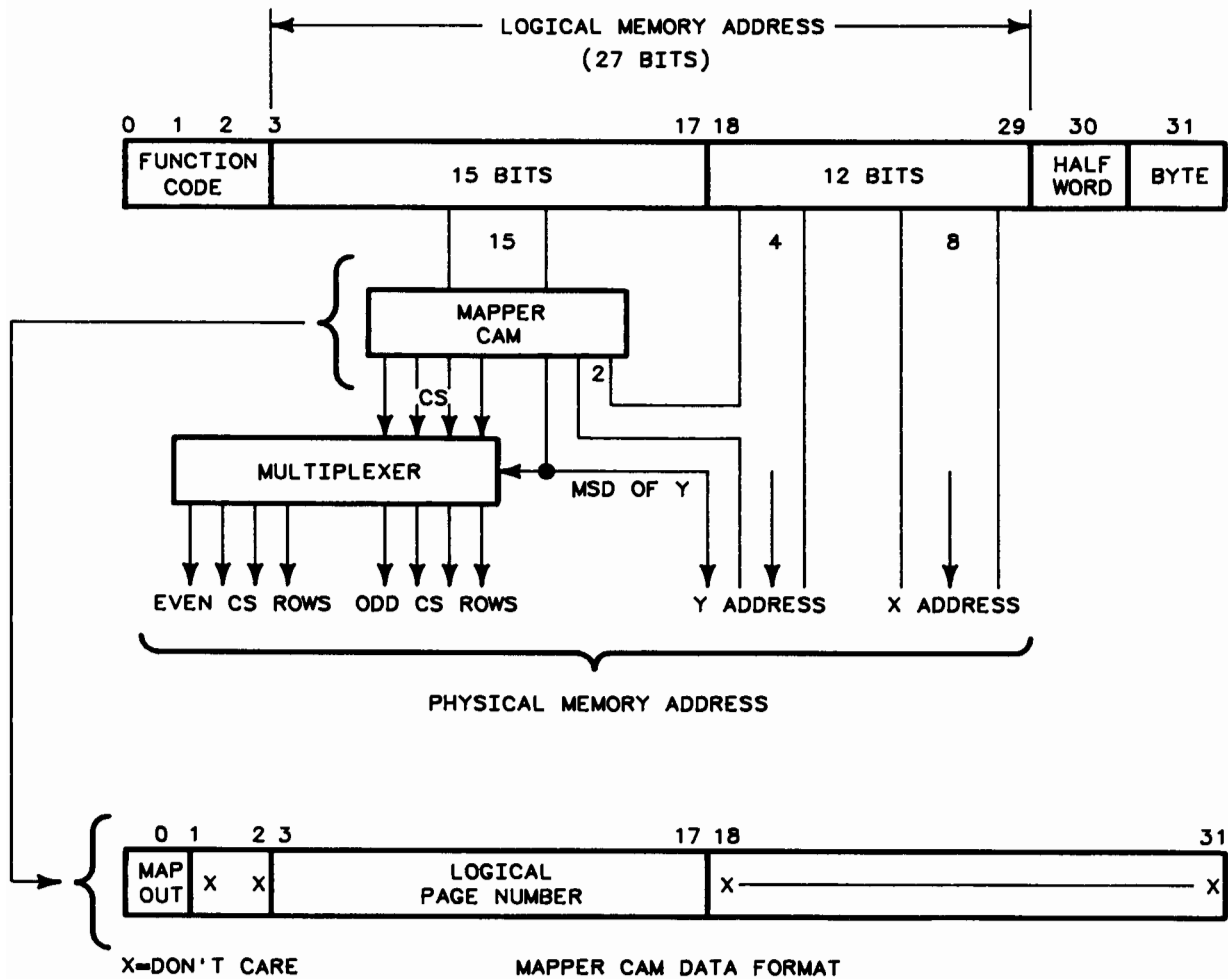

Figure 2-14. 512K Memory Mapping Operation
The 256K RAM used 16 of the 32 mapper CAM registers to produce chip select lines for selecting rows. The 512K RAM uses all 32 mapper CAM registers for selecting 8 rows instead of 4 rows (Figure 2-13). This is accomplished by multiplexing the Chip Select output of the mapper CAM, and using the most significant bit of the Y address to determine whether the multiplexed output is an odd numbered row or an even numbered row (Figure 2-14). The RAM chips still do not use the most significant bit of the Y address. It is only used by the multiplexer inside the Memory Controller.
As in the 256K RAM, the MC uses 27 bits of the MPB logical address to locate the physical memory address on the RAM board (Figure 2-14). 12 bits of the MPB address are used as part of the X and Y addresses. The other 15 bits select a mapper Content-Addressable Memory (CAM) register. The mapper CAM register output is used to provide Chip Select (CS) lines and 3 more Y address bits for block selection. One of four chip select lines is input to the multiplexer where it is further modified by the most significant bit of the Y address to select one of four rows of odd, or one of four rows of even numbered RAM. Each row of RAM has four 4K word blocks of memory, for a total of 16K words (four 8 bit bytes per word). The row is actually comprised of five 16K by 8 bit RAM chips. Each word has 32 data bits and 7 check bits for error detection and correction. Data and check bits are transmitted on the Memory Data Bus.